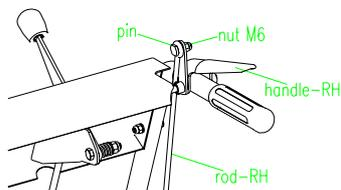

FIG 6
**2.4.2** Assemble the upper side of Rod-RH onto the right side of the handle with the pin and the nut M6. (FIG 6)